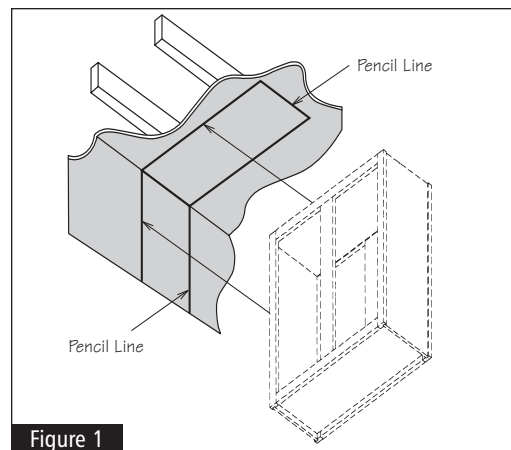

Figure 1
**1** Begin by measuring the length and width of your Peninsula Wall Cabinet(s). Measure the width from the front frame. Use those measurements to create an outline (in pencil) on the ceiling where the cabinet will be installed. If the side of the cabinet will also be affixed to a wall, draw vertical marks outlining that location as well. Make sure your lines are square and/or plumb relative to the wall/cabinet to which your Peninsula Wall Cabinet will be connected. See Figure 1.